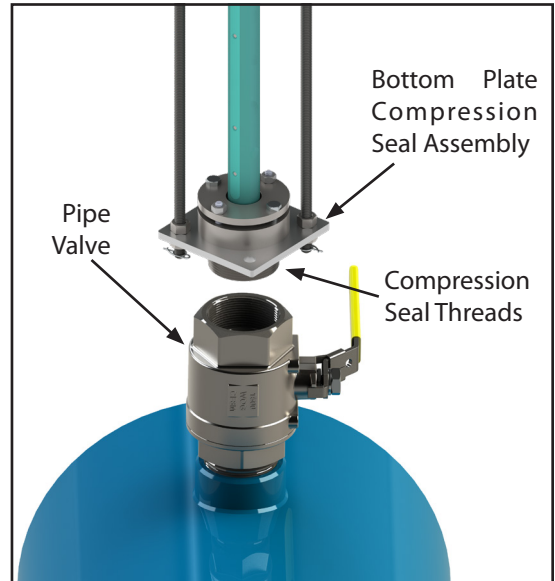

Figure 15. Connecting sensor to the pipe valve
2. Place the compression seal threads over the pipe valve. (See Figure 15) Turn the entire sensor assembly clockwise to secure the assembly to the valve. A large pipe wrench can be used to grip the bottom plate of the compression seal to tighten the assembly into the pipe valve.